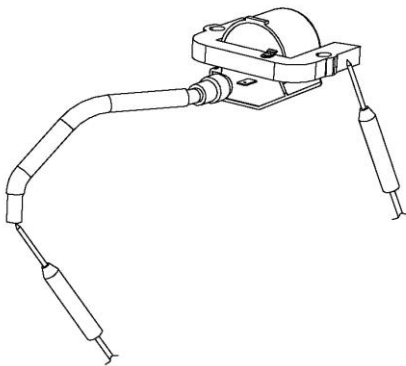

Figure 4-11: Secondary Ignition Coil Test
2. See Figure 4-11. Place one meter lead on the spark plug lead, and one on the coil ground as shown. Be certain grounding point is clean in order to obtain an accurate reading.